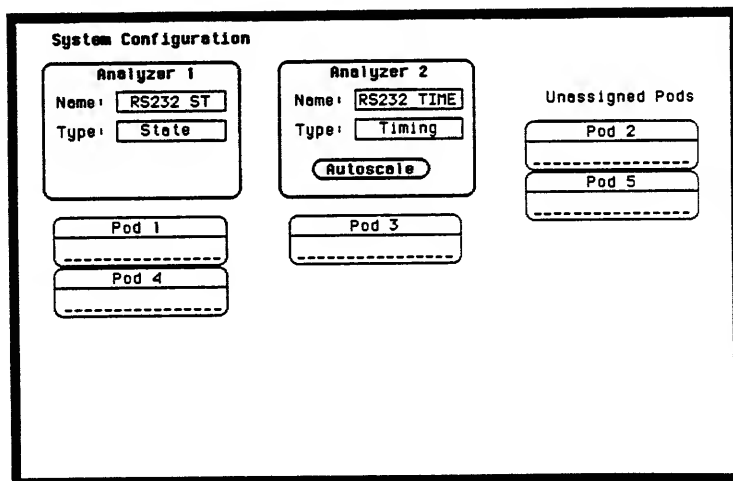

Figure 5-6. Configuration Menu for Timing Analysis with the HP 1650A or HP 16510A
2. Assign pod 3 to Analyzer 2. You should see a display as shown in figure 5-6.